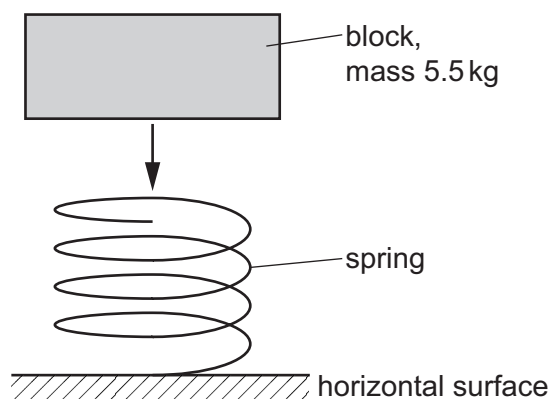

Fig. 3.1
- 3** The lower end of a vertical spring is fixed to a horizontal surface, as shown in Fig. 3.1.